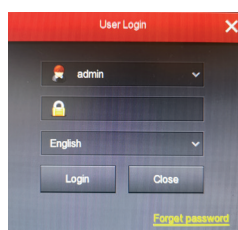

Fig.7
- The login window will be displayed (Fig. 7). Enter the user name and the password.